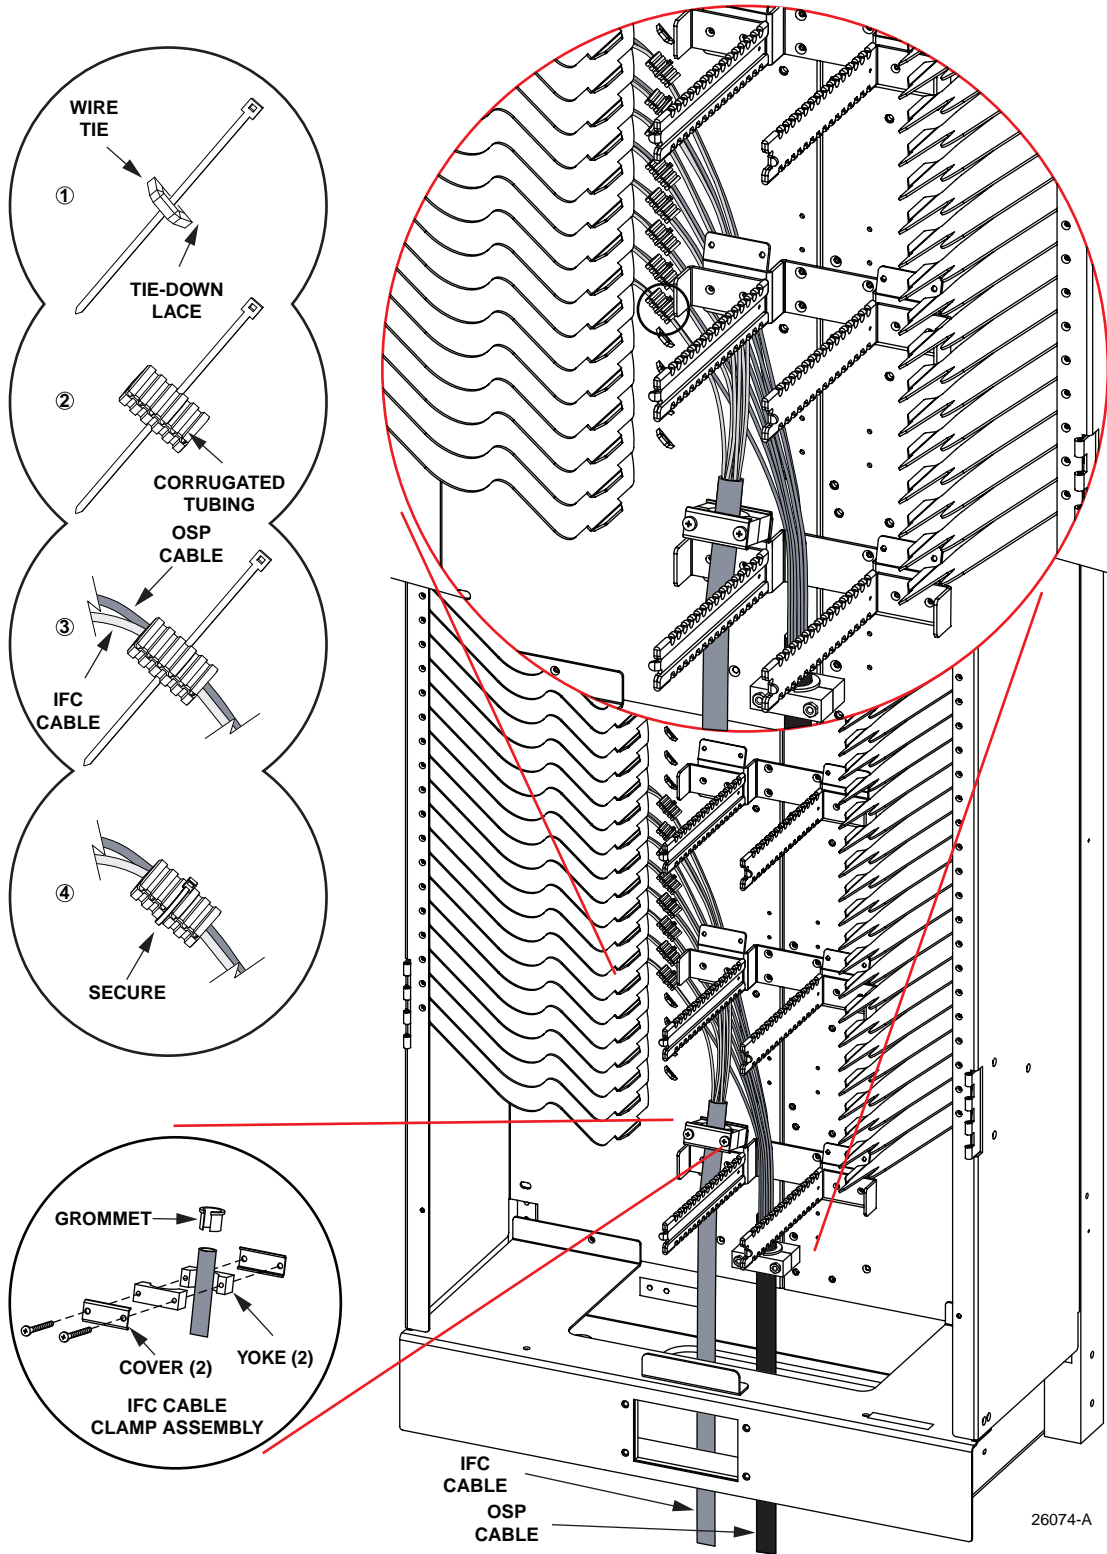

Figure 21. IFC Cable Routing (Raised Floor Cable Environment, 96-Fiber IFC Configuration)
2. Route and secure first IFC cable and OSP cable to the bay as shown in Figure 21.